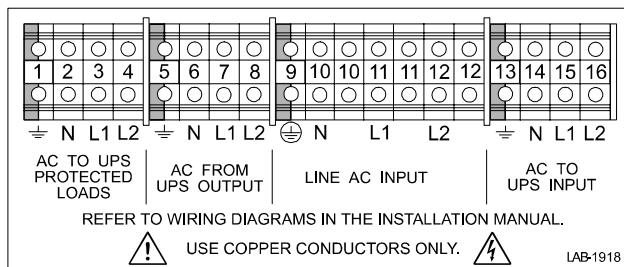

Figure 16. Bypass Switch Wiring Label
6. Find the terminal strip inside the bypass switch cabinet. Using the label on the back of the bypass switch access panel and the proper installation wiring diagram, make the terminal strip connections and tighten all connections as specified in Table 2 on page 22. Use copper wire that is the appropriate size for the current draw. Figure 16 shows a sample label.